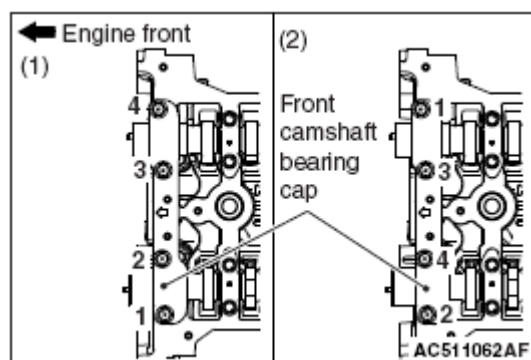

Fig. 97: Identifying Front Camshaft Bearing Cap To Cylinder Head
1. Install the front camshaft bearing cap to the cylinder head, and temporarily tighten the front camshaft bearing cap mounting bolts to the specified torque in the order of the (1) in **Fig. 97**.
2. Tighten the front camshaft bearing cap mounting bolts again to the specified torque in the order of the (2) in **Fig. 97**.